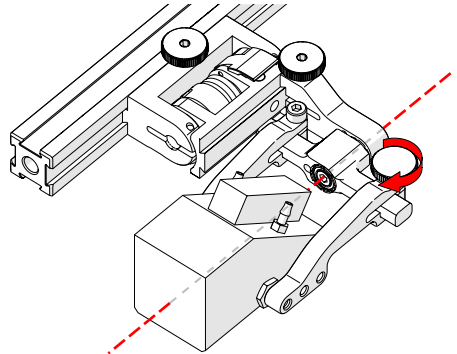

Fig. 108 - Pinch wedge with arm
9. Tighten probe holder arm adjustment knob (Fig. 108).